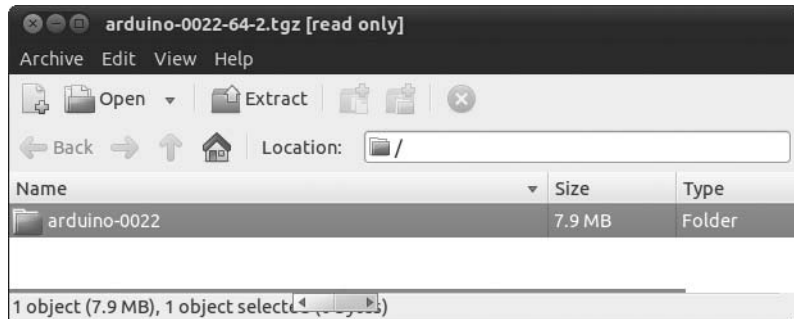

Figure 1-25: The IDE package
3. After the file has downloaded, it will be displayed in the Archive Manager, as shown in Figure 1-25. Copy the *arduino-0022* folder (or something similar) to your usual application or Home folder.